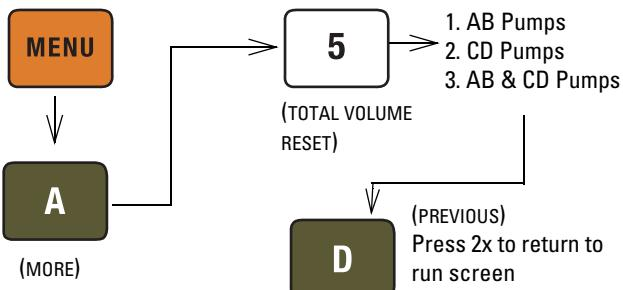

Figure 5-8 Keystrokes to reset volume totalizer
3. Reset total volume (see Figure 5-8).
5. Reset total volume (see Figure 5-8).